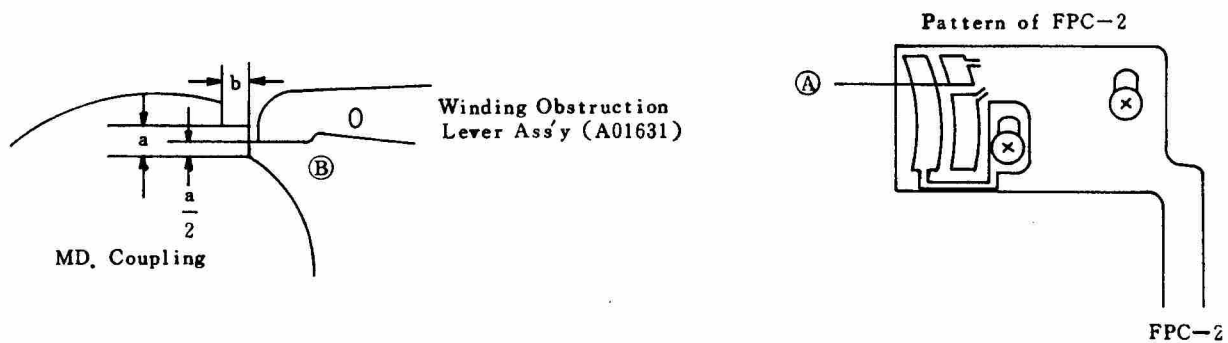

Fig 47
- a) After winding, return the Winding Lever slowly and check that the point of the Winding Obstruction Lever Ass'y is located at position ② of the Winding Obstruction. When the contact part of the Winding Obstruction Lever Ass'y contact is located at position ① as shown in (Fig 47).
- b) The position ① is the pattern of FPC-2, so it is available switch ON or switch OFF.
- c) Adjust the position of pattern of FPC-2 so that you may be able to release the Shutter surely when the point of the Winding Obstruction Lever Ass'y is located at position ②